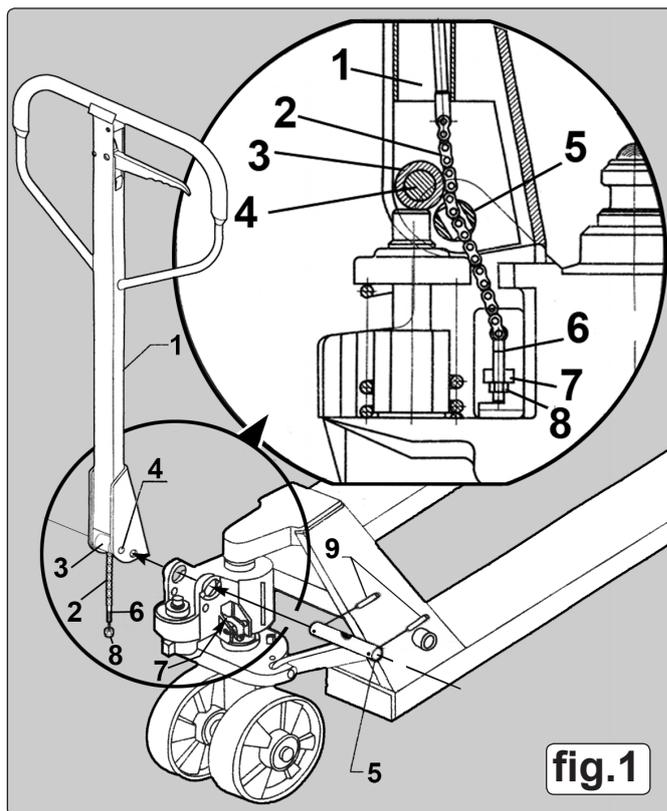

fig.1
- 3.2 Position yourself behind the truck and insert the handle assembly into the pump casting (see fig.1). Align the pivot holes at the base of the handle with the pivot holes in the casting. Take the pivot pin and orientate it so that the inserted
- 3.5 Referring to the inset cross section in fig.1, Insert the chain (2) with adjusting bolt (6) and nut (8) attached through the hole in the centre of the pivot pin.
- 3.7 Move the lever control at the top of the handle into it's lowest position. Then raise the rocking lever plate (7) which sits within the main casting and move the chain adjusting bolt (6) into the slot in the end of the plate so that the adjusting nut (8) is now underneath the plate as shown on the inset cross section in fig.1.
- 4.2 If the lever does not work in the prescribed way it can be adjusted using the nut (8) at the bottom of the adjusting rod (6) which is attached to the chain (2). See fig.1.